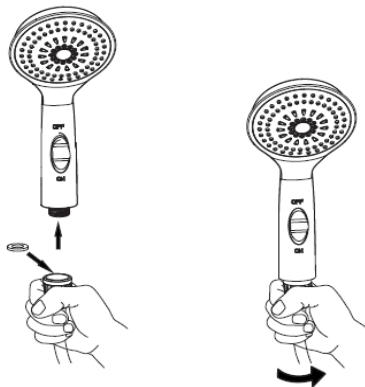

Fig.14
- Connection of water outlet tube and shower head (Fig. 14)